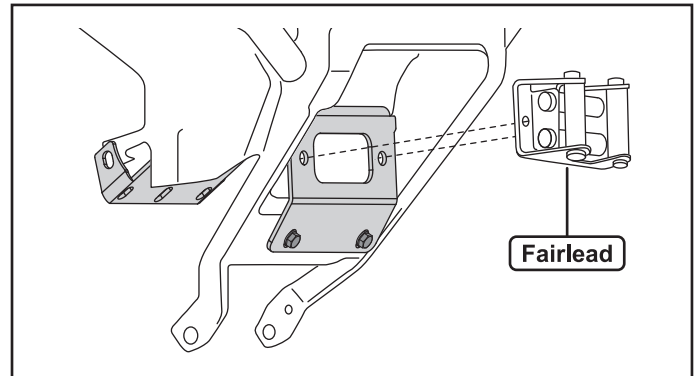

Figure 5.
4. Install your fairlead to the mount plate using the hardware included with your winch, see figure 5.